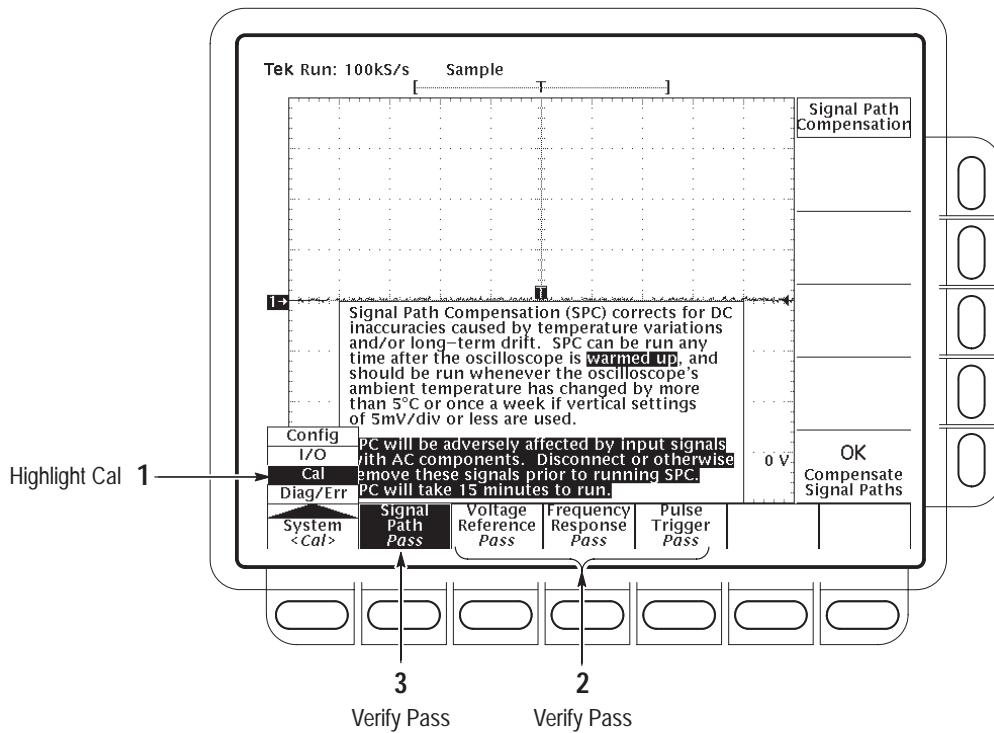

Figure 4–2: Verifying adjustments and signal-path compensation
- Highlight **Cal** in the pop-up menu by repeatedly pressing the main-menu button **System**. See Figure 4–2.
- Verify that the word **Pass** appears in the main menu under the following menu labels: **Voltage Reference**, **Frequency Response**, and **Pulse Trigger**. See Figure 4–2.
- h.** *Confirm signal-path compensation returns passed status:* Verify that the word **Pass** appears under **Signal Path** in the main menu. See Figure 4–2.